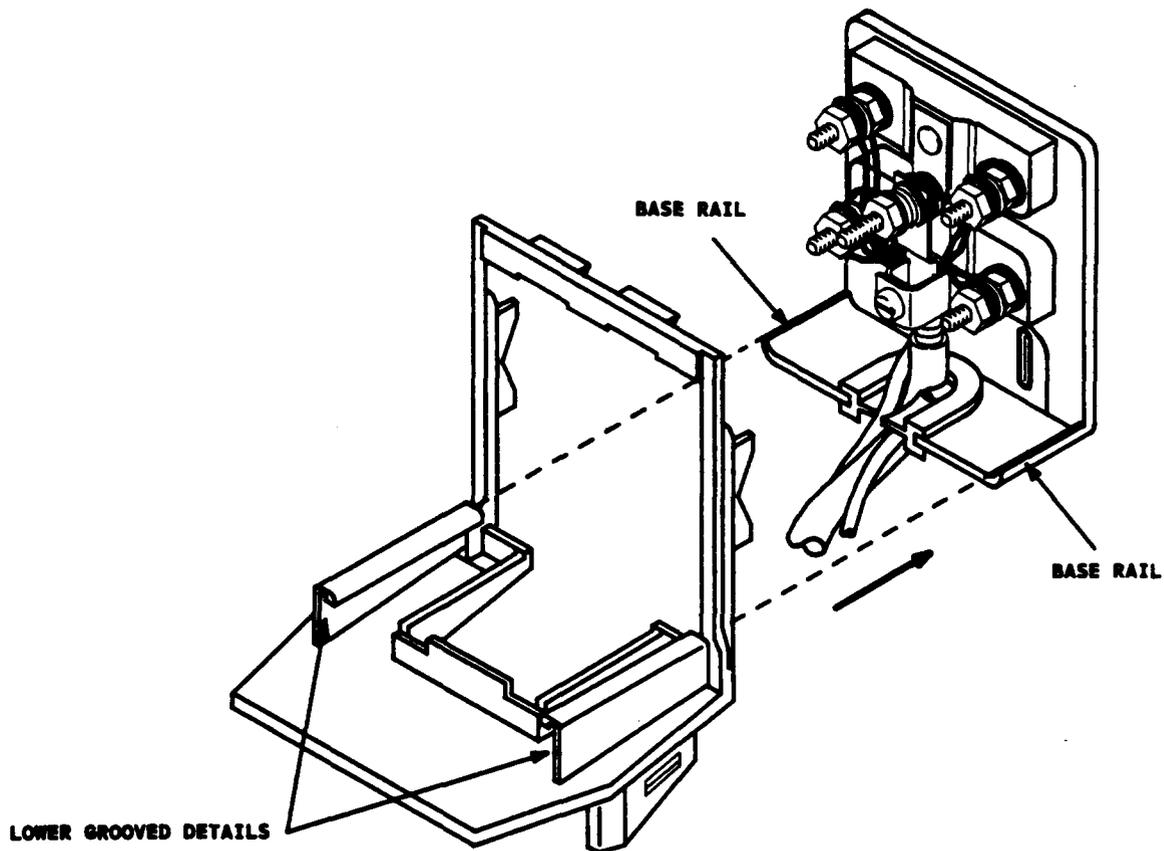

Figure 20. Sliding Adapter Along Base Rails
- (2) Align the lower grooved details of the T3-400 adapter with the TII 325/326 protector base rails. Slide the adapter along the TII protector base rails (Figure 20).